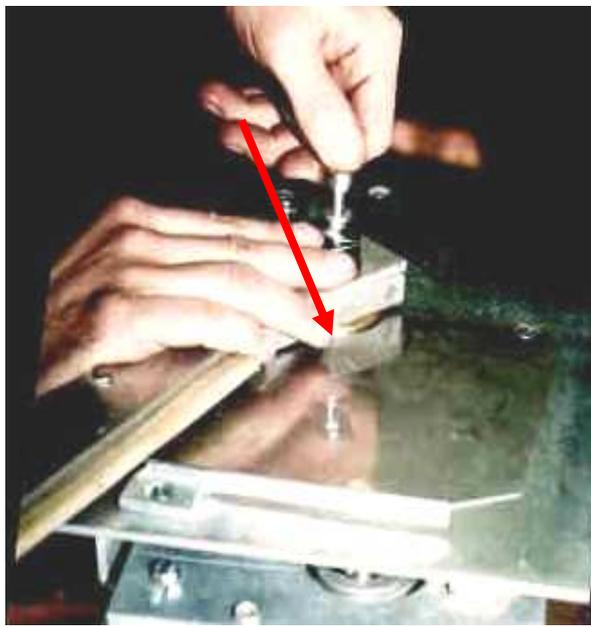

Fig 4
Fit inverted to the top of the main shaft with Shim Washer/s (T) underneath (See Fig 4 Page 8). When fitting this check the clearance between the top plate and throwing arm and add sufficient (2-4) washers to adjust this clearance. Tighten firmly.